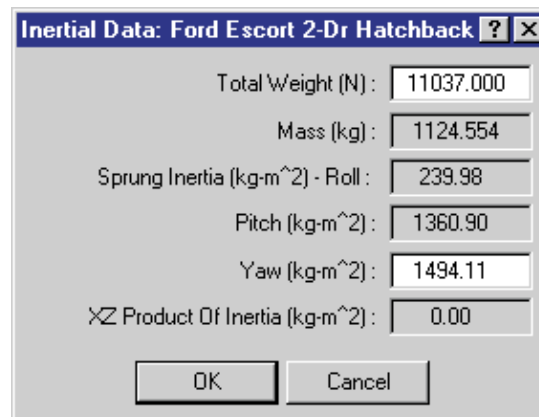

Figure 5-3 Vehicle Inertias dialog, used for editing the current weight and yaw inertia.
- Click on the CG and choose *Inertias*. The Inertias dialog is displayed (see Figure 5-3), and we're ready to change the vehicle's weight.